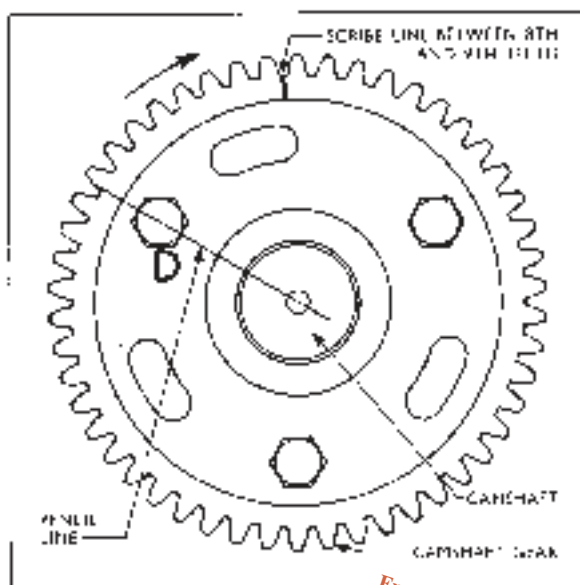

Fig. 12
6. If the camshaft gear being used does not carry any timing marks, draw a line through the centre of the camshaft and the centre of the plain hole adjacent to the letter 'D' on the camshaft gear as shown in Fig. 12.